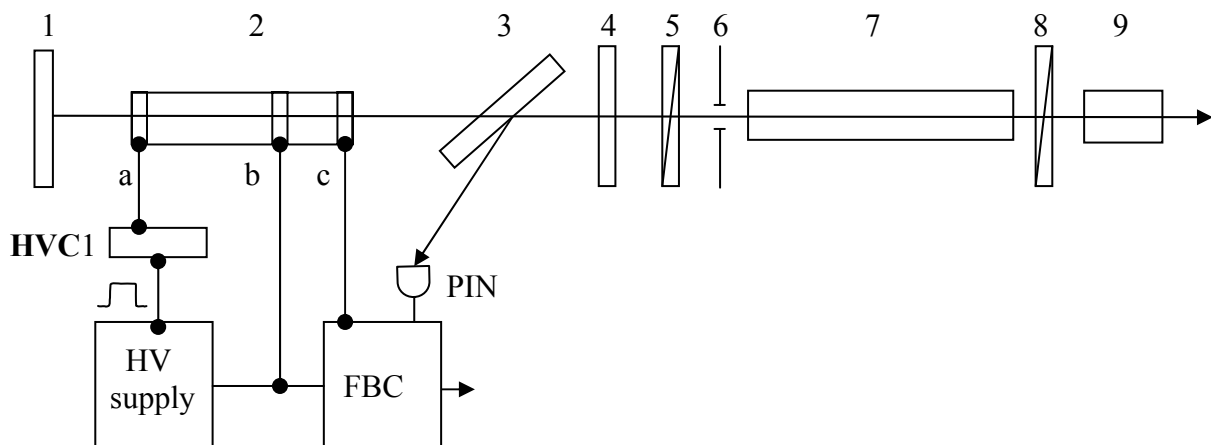

Fig.5. Scheme of master oscillator
Master oscillator is a module of rigid design mounted on invar rods to ensure mechanical and thermal stability. Optical layout of master oscillator is shown in Fig.5. Oscillator's cavity is formed by a 100% reflectivity mirror (1) and an uncoated glass Fabry-Perot etalon (9) for the longitudinal mode selection. Part of the electrooptical Q-switch (2) between electrodes *a* and *b* is used as classical Q-switch, while another part (between the electrodes *c* and *b*) together with the polarizer (3) and PIN photodetector are forming negative feedback system.